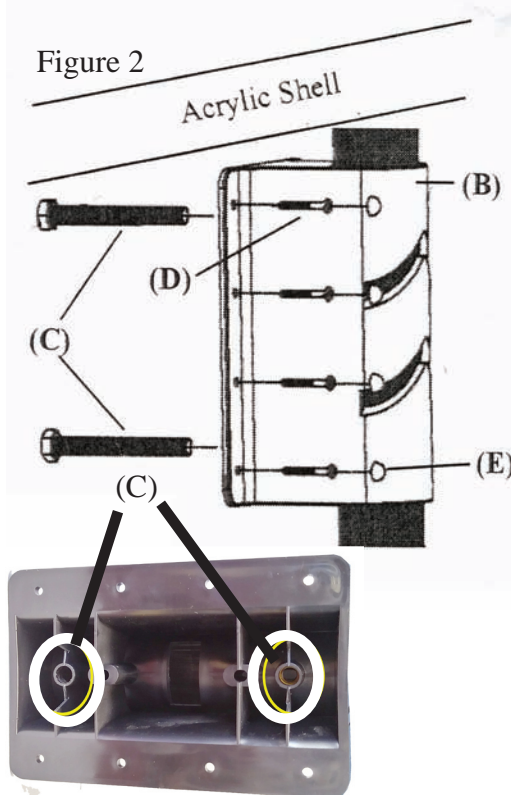

Figure 2
Mount the two Brackets (B) making sure it's vertical and straight, on the cabinet using the screws provided. (See Fig. 2)